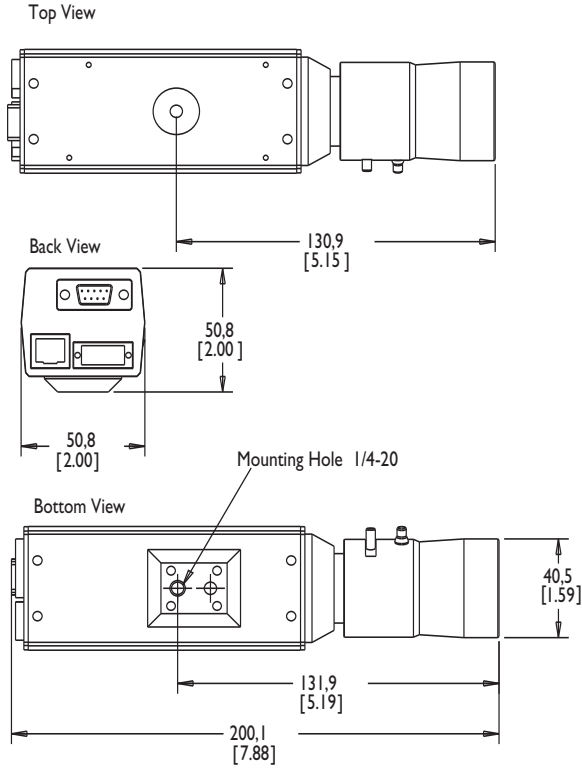

**Figure 1 IPIX Network Camera**
1. Loosen the back focus ring locking screw located on the front of the camera body. (see **Figure 1, Detail B**)